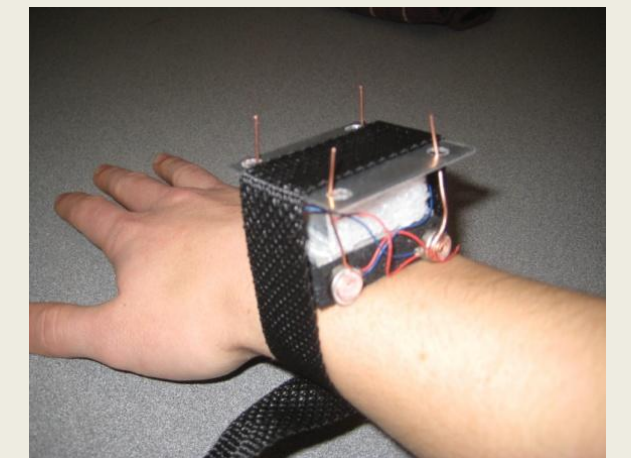

Figure 10: Vibrating dots prototype created by past BME design team
- Improve on previous BME designs[2] (Figure 10)